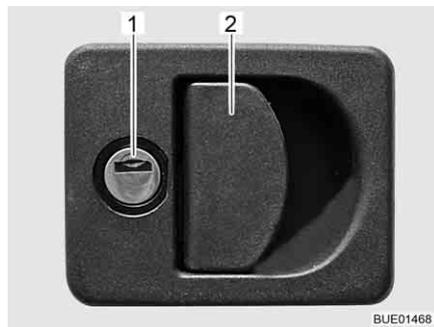

Fig. 35 Flap lock with recessed handle
- Insert key into locking cylinder (Fig. 35,1) and turn a quarter turn. The flap lock is unlatched.
- Pull on the lock handle (Fig. 35,2). The external flap is open.